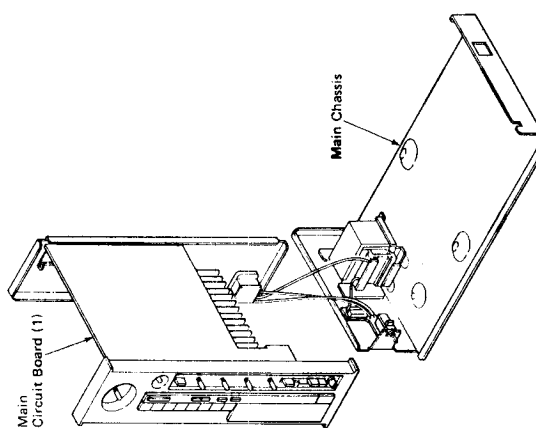

Fig. 2
- c. Remove the Main Chassis as shown in Fig. 2. In this condition it is possible for you to check the Main Circuit Board (1) and replace the parts.